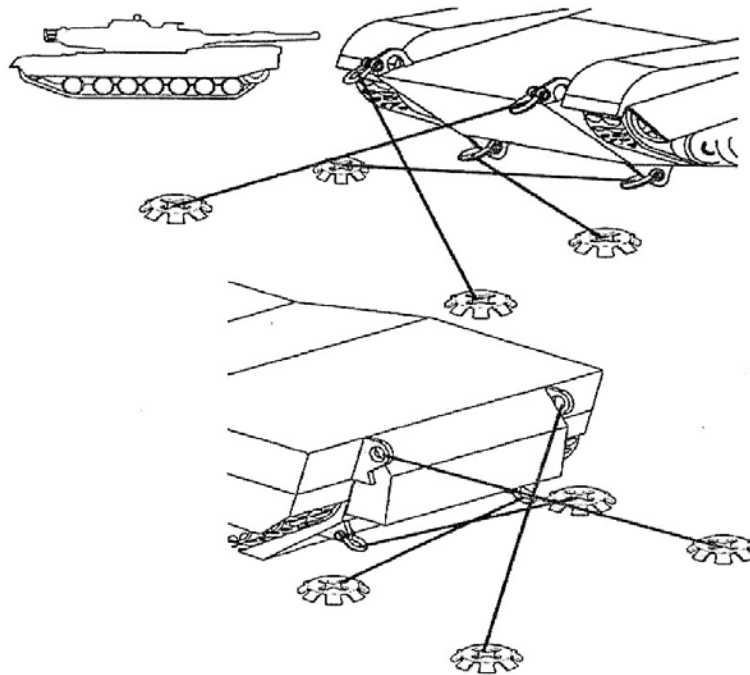

Figure 3-178
- b. Issue guidance that the number of lashings for tracked vehicles will depend on the weight and the number of lashings could range from four to eight (see Figure 3-178).